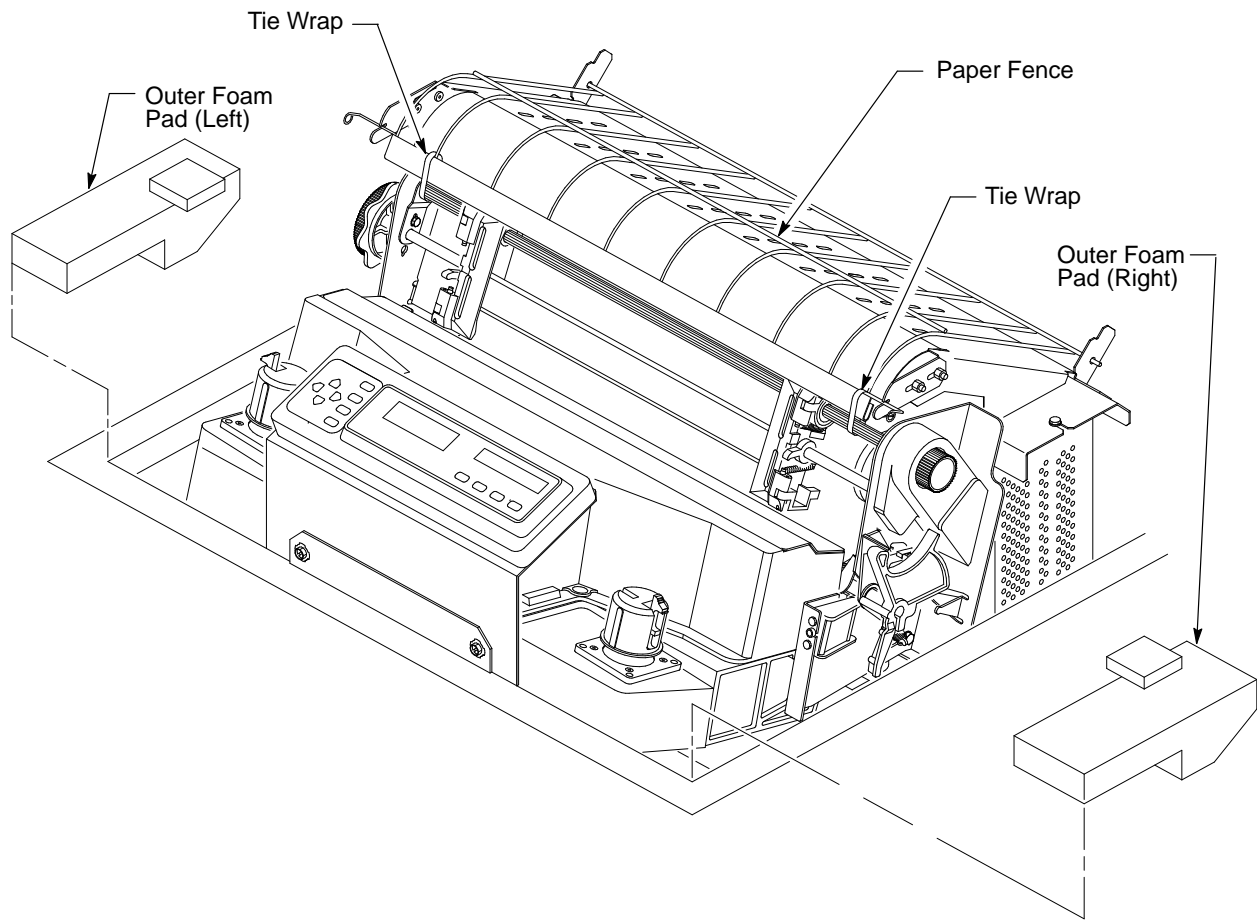

Figure 2–2. LG06: Tie Wraps and Outer Foam Pads
2. Cut and remove the tie wraps securing the paper fence. (See Figure 2–2.)